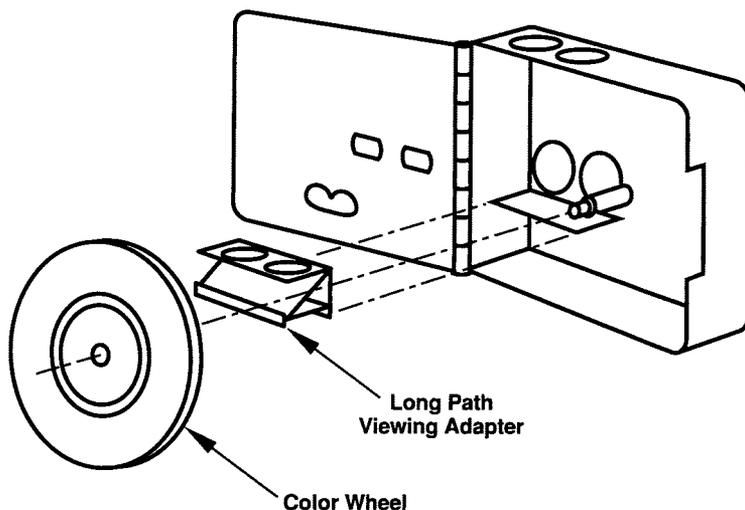

Figure 1
1. Assemble the color comparator. If the anticipated concentration is between 0 and 1 mg/L, assemble with both the Long Path Viewing Adapter and the phenols color disc installed. See Figure 1. If the concentration is expected to require the 0-5 mg/L range, omit the adapter.